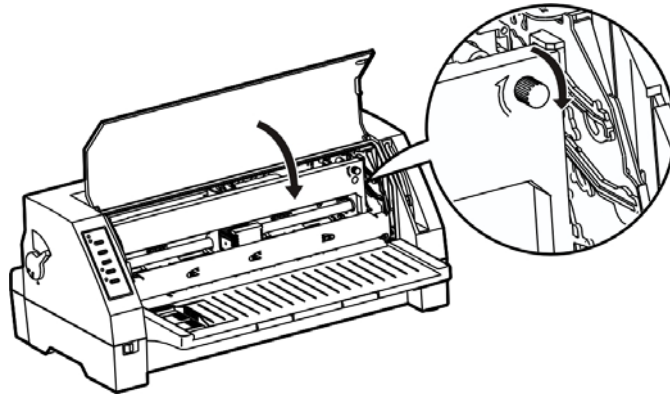

Figure 2-6 Installing the ribbon cassette
- 6 To install the ribbon cartridge, hold it with both hands, with the ribbon facing down as shown if Figure 2-6.